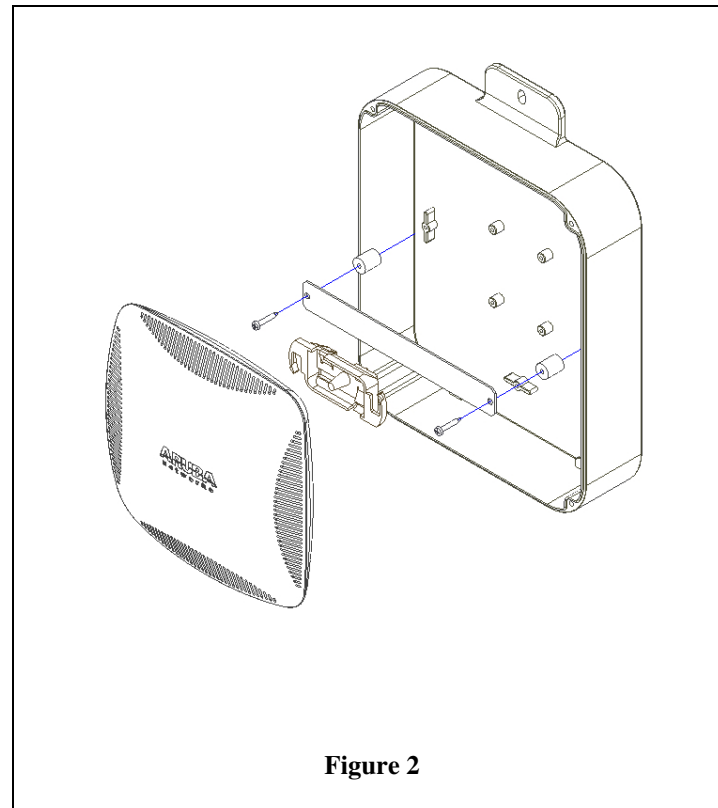

Figure 2
Step 3b - (For Aruba Networks and other APs) Install the AP per the manufacturer's T-Bar installation instructions (Figure 2). The T-Bar Bracket may be positioned to orient the AP as desired.